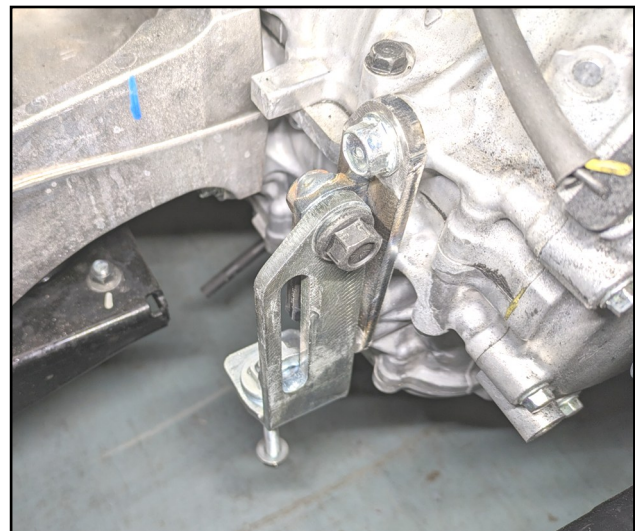

Fig. 3.4 (Install Alternator Tensioner)
- 3.4 Install the alternator tensioner onto the lower alternator mount. See figure 3.4. **Note:** Do not fully tighten hardware.